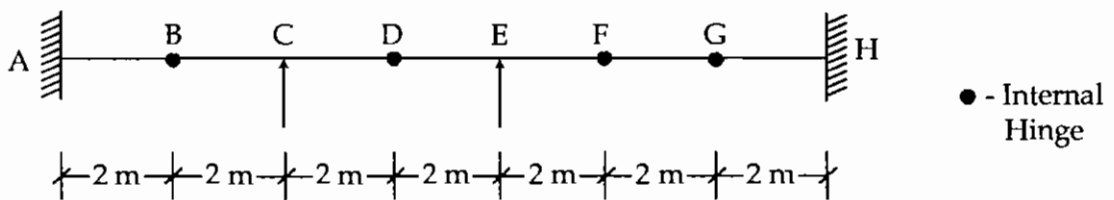

Figure 6 [Q. No. 4 (B)]
3. (A) A fixed beam ACB of length $2L$ is fixed at A and B, $AC = CB = L$. While portion AC has a moment of inertia of $2I$, portion CB has a moment of inertia of I . If the beam is subjected to a uniformly distributed load of ' ω ' per unit length over the entire span, determine the fixed-end moments at A and B using slope-deflection method. 12
- (B) A rigid portal frame ABCD has two unequal vertical legs, $AB = 4m$ and $CD = 6m$ with member BC horizontal and $8m$ long. The supports A and D are fixed and all the members have same moment of inertia I . The member BC carried a uniformly distributed load of $40 kN/m$ and a horizontal force ' H ' acts at joint C. Find the magnitude and sense of the force ' H ' such that the frame does not sway under the given loading. Use moment - distribution method. 13
- (C) A two-span continuous beam ABC has simple supports at A and C and $AB = BC = L$. Span AB carries a central concentrated load of ' P '. Compute the redundant reaction at the central continuous support B if it settles by ' Δ '. Use consistency of deformation method. 9
4. (A) A cable is suspended between two points A and B located 50m apart horizontally. B is higher than A by 12.5 m. At the midpoint of the span AB, the cable is 9.375 m below the point A. The cable carries a uniformly distributed load over the span. Determine the position and sag of the lowest point and curved length of the cable.
- (B) Using the Muller-Breslau principle draw the influence line diagrams for the following actions for the compound beam shown in Figure. 6 and show the salient values. 10